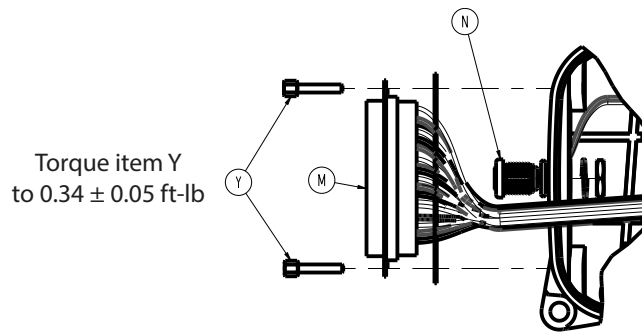

Figure 14 – 37-pin cable configuration
8. Using the 3/16" socket and 1/4" ratchet, remove the two jack screws (Y) that secure the 37-pin cable (M) (Figure 14). Save the screws.
9. Move the 37-pin cable out and to the side to gain access to the power cable nut (N) (Figure 14).